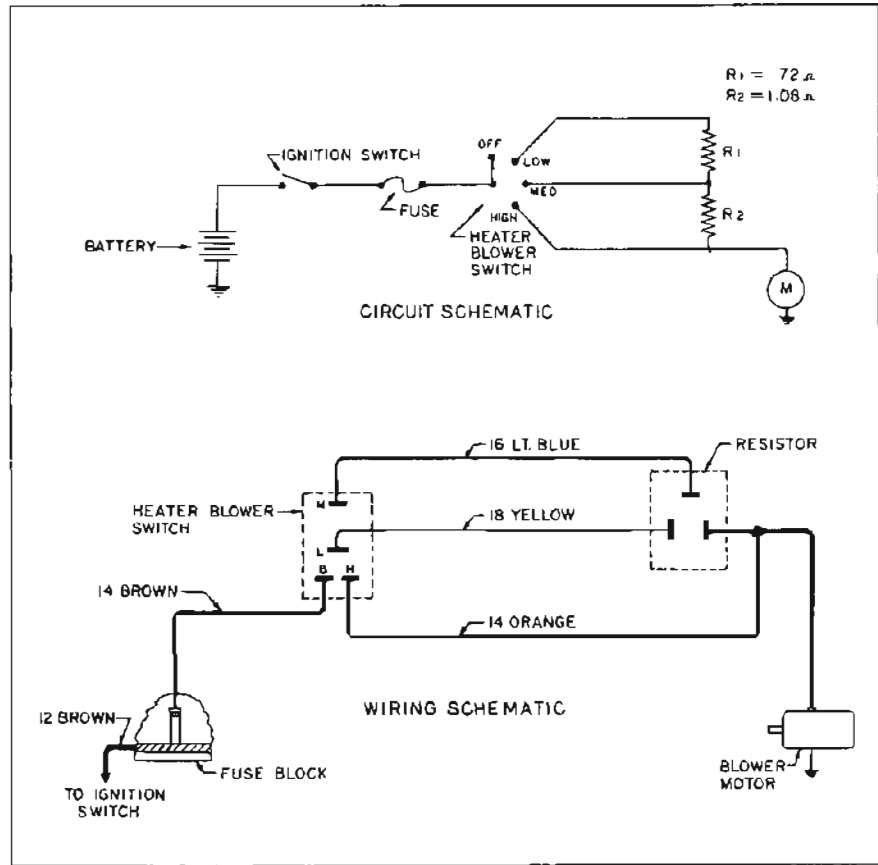

Figure 11-11—Heater System Wiring Diagram and Schematic
1. Blower and Air Inlet Assembly—The blower and air inlet assembly draws outside air through the outside air inlet grille located forward of the windshield reveal molding and channels the air into the heater assembly. The operation of the blower motor is controlled by a FAN switch on the heater control. The motor is connected in series with the three position FAN switch and also the blower resistor assembly (see Figure 11-11). A 20 amp fuse, located in the fuse block, is in series between the blower motor and the battery.